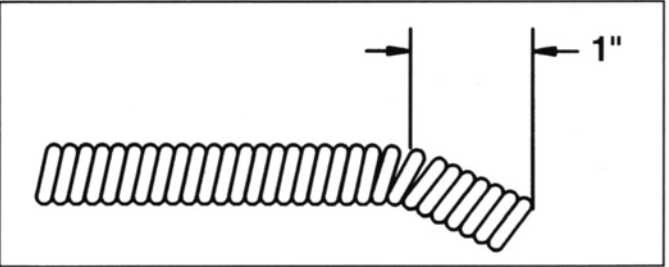

Figure 2
- 1. Use a vise or pair of pliers to make a bend in the tail end of the cable. This bend should be approximately 30 degrees, and located about 1" from the tail end of the cable, (see Fig. 2).